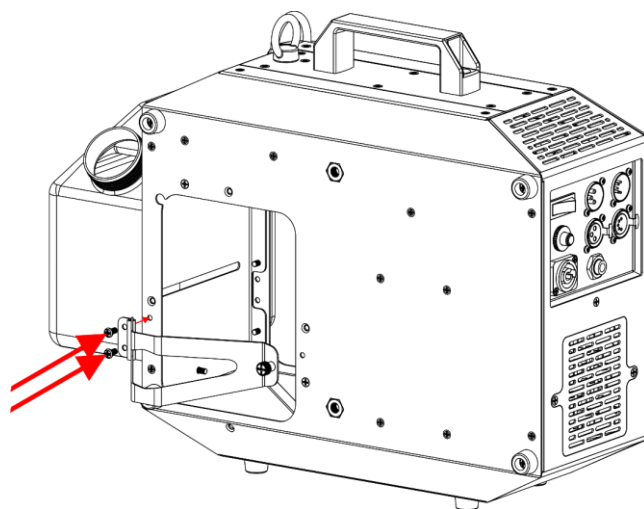

Fig. 15
10) Screw the 2 screws of the bracket into the backside and install the **bracket for liquid tank (03)**, as shown in Fig. 15.